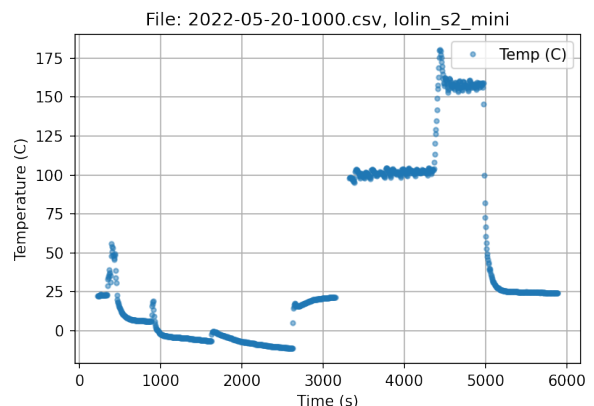

Figure 13: The temperature versus time of the experiment.
Figure 13 shows the temperature versus time as I cooled and heated the sample and thermocouple.
- a) *Figure 13* shows how to wire the DAC to ground with a lower resistance, like  $100\ \Omega$ , then use an op amp to provide a low impedance voltage source. I love the MCP6022 op amp. It works on 3.3 V supply, has rail to rail input and output, comes in plastic DIP that plugs into breadboards, and has a gain-bandwidth of 10 MHz. It is a good practice to wire a  $1\ \mu\text{F}$  capacitor from 3.3 V to GND at the op amp.